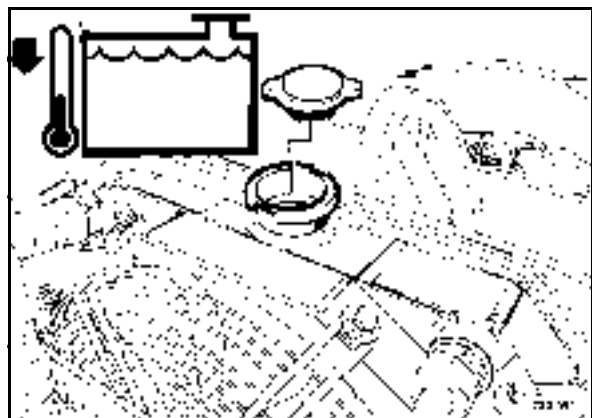

Fig. 129
- Remove the radiator cap (Fig. 129).